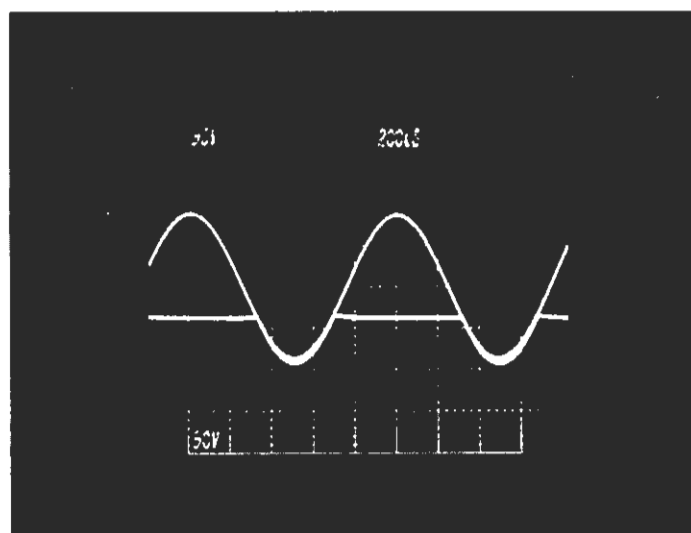

FIG 6
- Figure 6 -80V commutator @ full power @ 1 kHz into 8Ω .